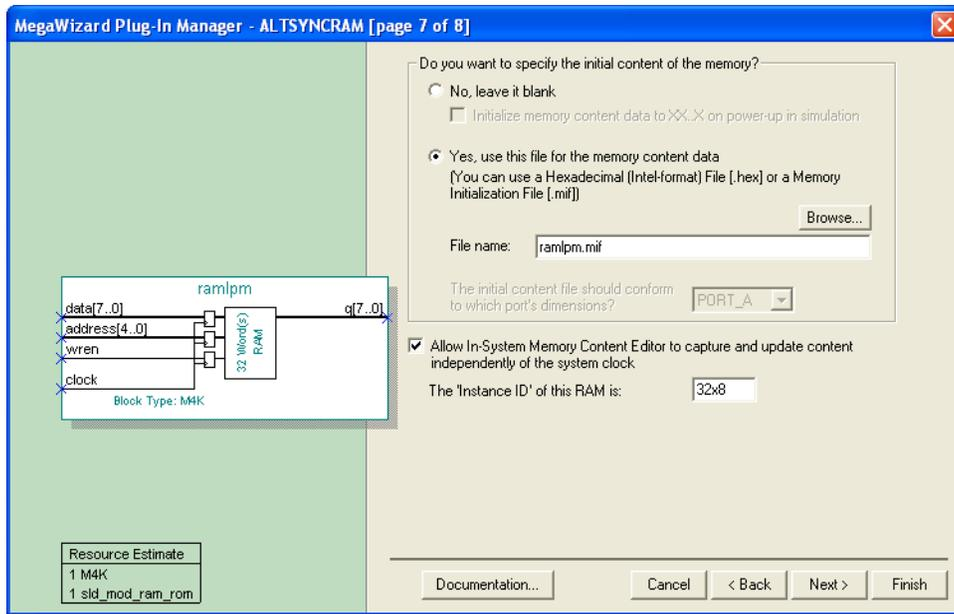
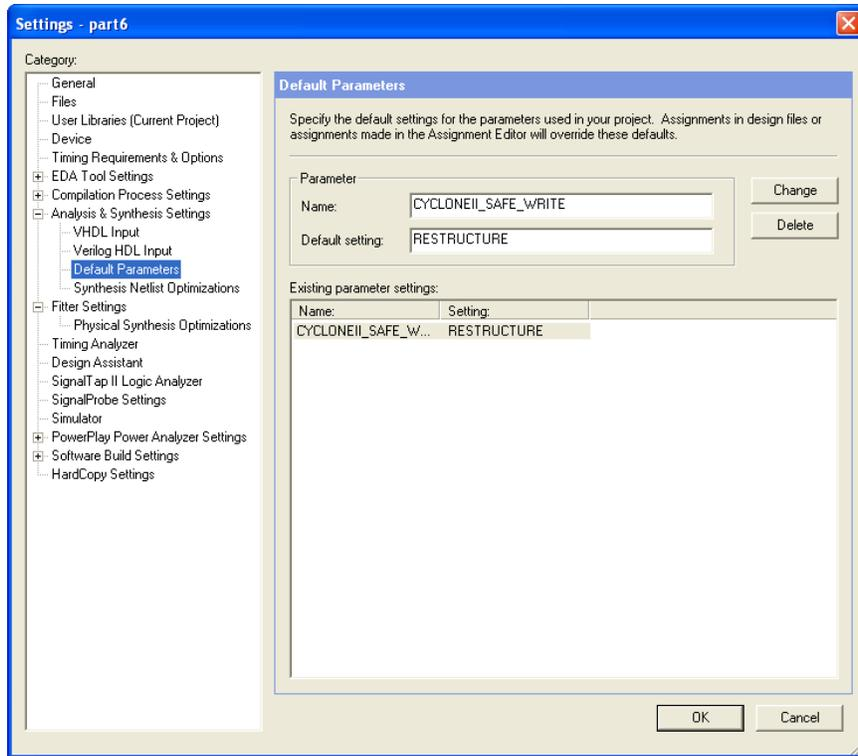

Figure 6. Configuring *altsyncram* for use with the In-System Memory Content Editor.
Figure 7. Setting the *CYCLONEII\_SAFE\_WRITE* parameter.
1. Create a new Quartus II project for your circuit, and use the MegaWizard Plug-in Manager to again create a single-port version of the *altsyncram* LPM. For Pages 1 to 6 of the Wizard use the same settings as in Part I. On Page 7, shown in Figure 6, specify the *ramlpm.mif* file as you did in Part V, but also make the setting Allow In-System Memory Content Editor to capture and update content independently of the system clock. This option allows you to use a feature of the Quartus II CAD system called the In-System Memory Content Editor to view and manipulate the contents of the created RAM module. When using this tool you can optionally specify a four-character 'Instance ID' that serves as a name for the memory; in Figure 7 we gave the RAM module the name 32x8. Complete the final steps in the Wizard.
3. Before you can use the In-System Memory Content Editor tool, one additional setting has to be made. In the Quartus II software select **Assignments > Settings** to open the window in Figure 7, and then open the item called **Default Parameters** under **Analysis and Synthesis Settings**. As shown in the figure, type the parameter name **CYCLONEII\_SAFE\_WRITE** and assign the value **RESTRUCTURE**. This parameter allows the Quartus II synthesis tools to modify the single-port RAM as needed to allow reading and writing of the memory by the In-System Memory Content Editor tool. Click **OK** to exit from the Settings window.